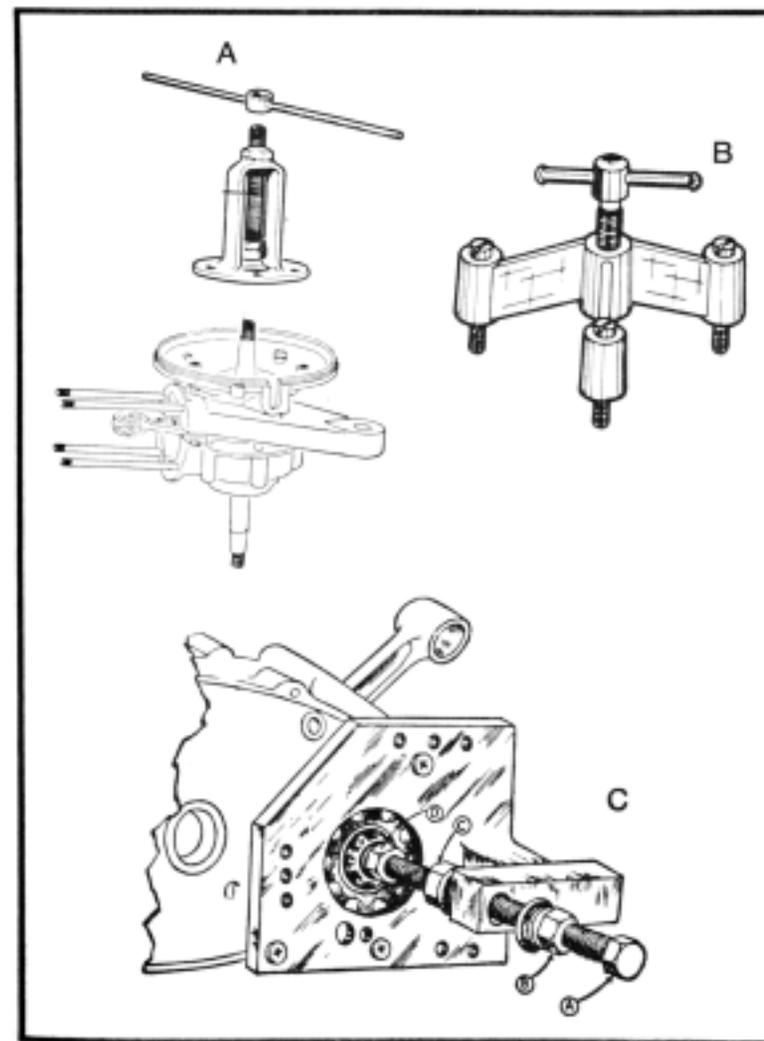

Fig. 6-28. Crankshaft extractor tools from Peugeot (view A), Minarelli (view B), and Bolger Manufacturing (view C).
3. The third alternative is to press the crankshaft out with a threaded tool that bolts to the engine casting. Figure 6-28 illustrates three such tools. The first drawing shows an extractor for Peugeot engines; the second, a similar tool sized for the Minarelli V1; the third drawing illustrates a nearly universal model from Bolger Manufacturing. Intended to service Honda 125/250-cc motorcycles, the Bolger tool can be drilled to fit most moped engines. It is available from cycle dealers.